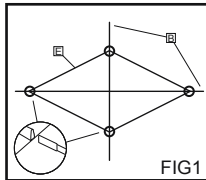

FIG1
2. Push the poles completely into the channels. (FIG1)